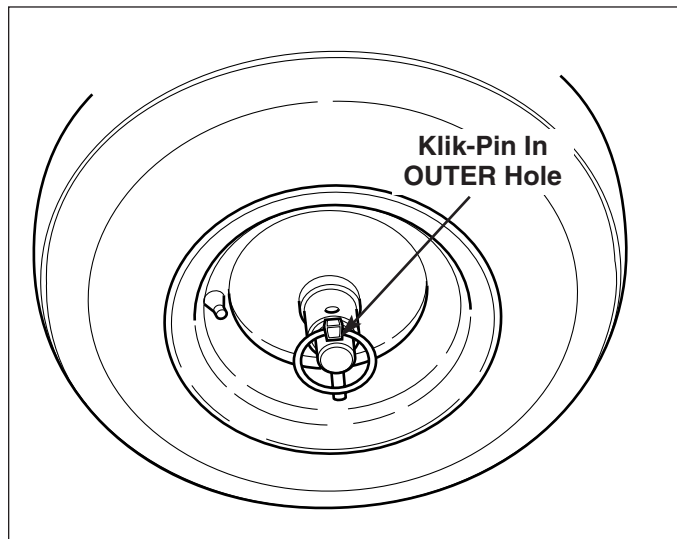

Figure 11. Traction Drive Lock - Disengaged
For easy turning when pushing the snowthrower, you can disengage the traction drive at one or both wheels by using the traction lock pins (See Figures 11 & 12).
2. To **DISENGAGE** the traction drive lock, insert the traction lock pin through the outer hole in the axle. (See Figure 11).